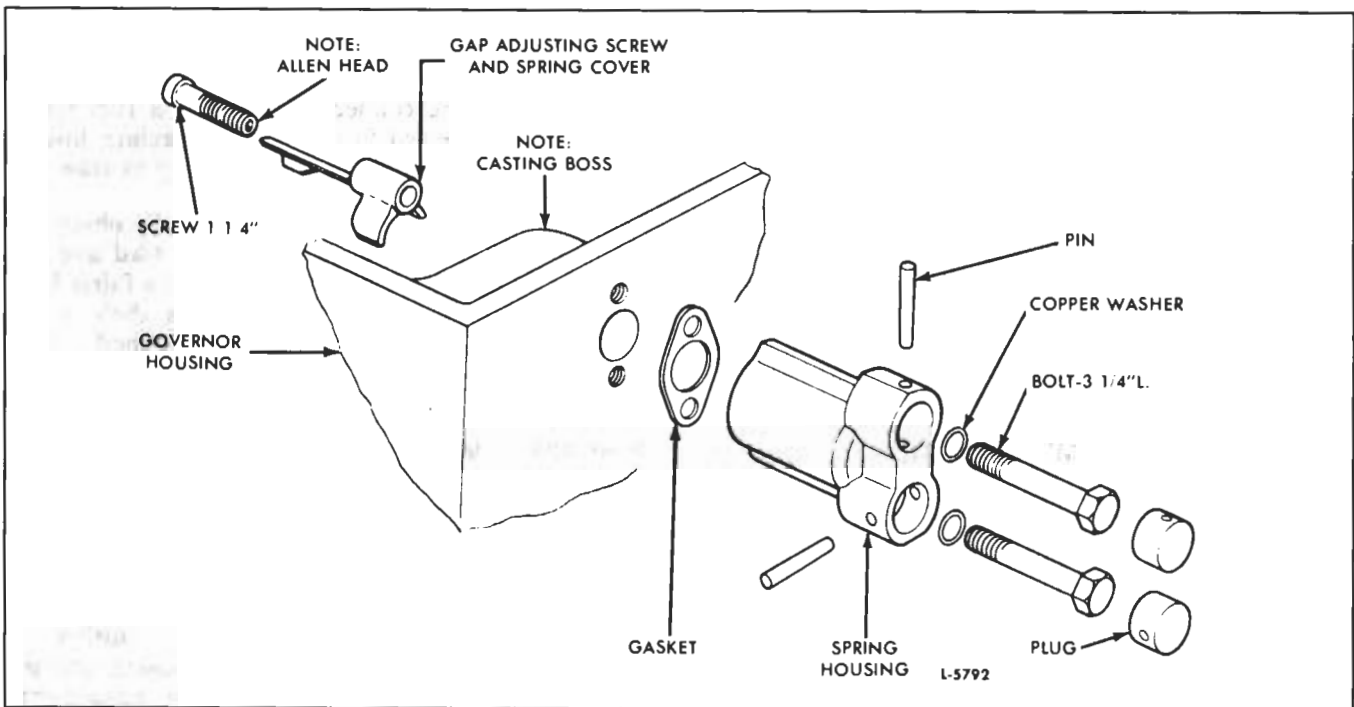

Fig. 6 - Tamper-Resistant Governor Components (Current)
- a. On the current tamper-resistant governor, insert the 1-1/4" Allen head retaining screw through the unthreaded clearance hole in the gap adjusting screw and spring cover (Fig. 6) and secure the cover to the inside of the governor housing. The retaining screw sets into a counterbore in the current cover. Turn the retaining screw into the housing until the cover is secure.
3. Refer to Fig. 6 and install the current gap adjusting screw and spring cover and the high and low-speed spring assemblies), replacing the original retainer with the new longer retainer in the governor housing as outlined under Step 3, Items a through f above.
With this procedure, two threaded inserts are installed in the governor housing, one from the inside and one from the outside. This will allow the new retaining screw to be installed on the inside of the governor housing and the new spring housing upper 3-1/4" bolt to be installed from the outside (Fig. 6).